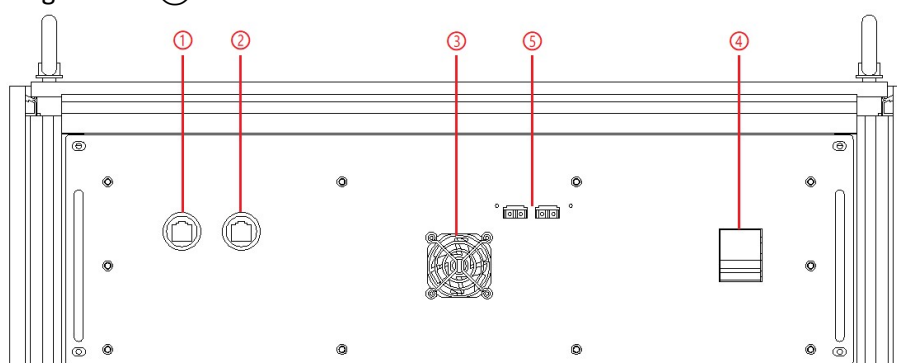

Figure 1-22 Front panel of control module
The master-slave interface is located on the front panel of the power supply control box, as shown in Figure 1-22⑤.